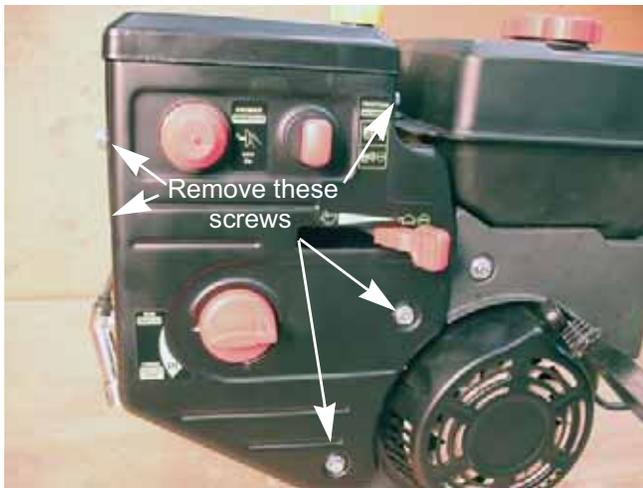

Figure 3.1
2. Remove the control panel by taking off the five screws secures it using a 10 mm wrench. See Figure 3.1.